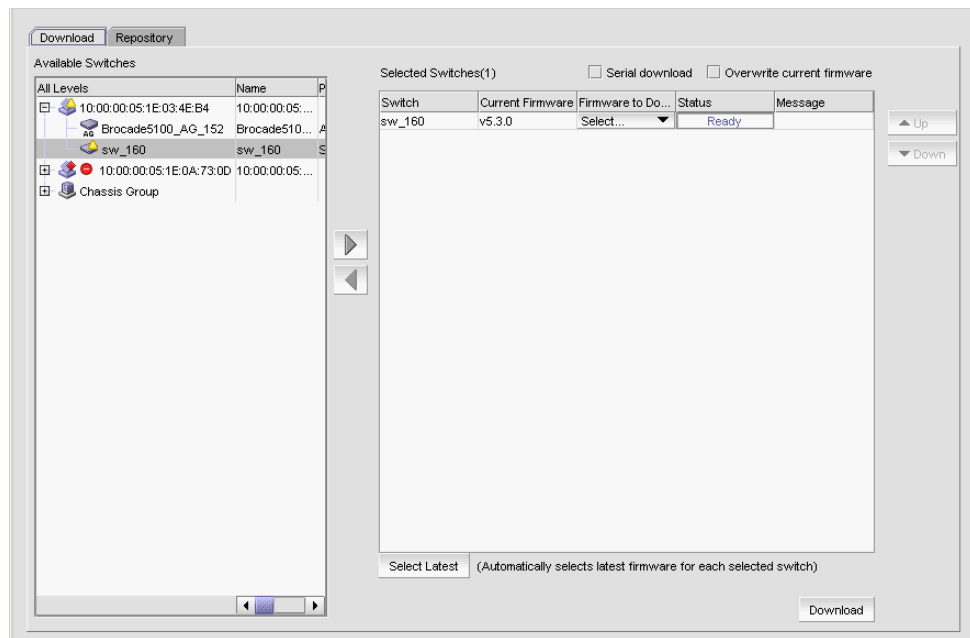

FIGURE 138 Firmware download
2. Select the **Download** tab (Figure 138).